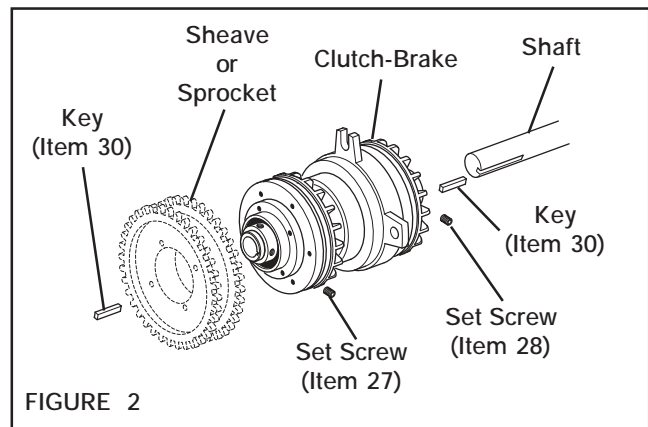

FIGURE 2
1. Secure a customer supplied sheave or sprocket to the Clutch-Brake (See Figure 2).
2. Insert the first Key (Item 30) into the shaft (See Figure 2).
3. Slide the Clutch-Brake onto shaft and key; then, insert the second Key (Item 30) (See Figure 2).
4. Tighten Set Screws (Items 27 and 28) to the recommended torque (See Table 1 and Figure 2).
6. Fasten one of the ears of the Clutch-Brake to a fixed member of the machine (See Figure 2).